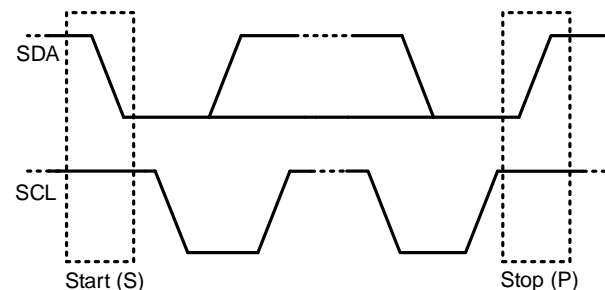

Figure 11: Start and Stop Conditions
All transactions begin with a start (S) condition and are terminated by a stop (P) condition. Start and stop conditions are always generated by the master. A start condition is defined as a high-to-low transition on the SDA line while SCL is high. A stop condition is defined as a low-to-high transition on the SDA line while the SCL is high (see Figure 11).